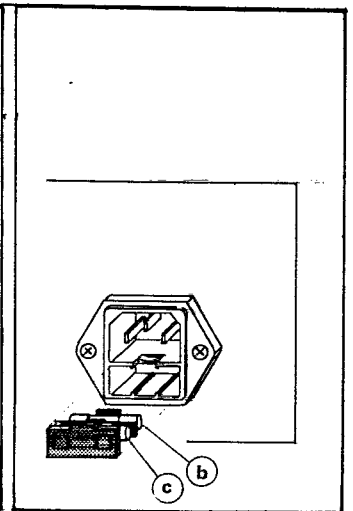

Fig. 7.2
- Replace the blown fuse ② by the new fuse ③ (check rating) — refer to Fig. 7.2.
- Insert replacement fuse ③ and then insert the fuse holder ② back into the unit.